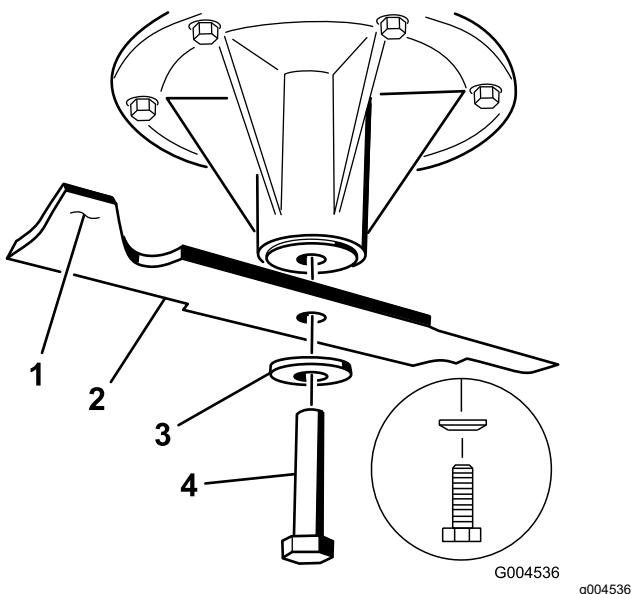

Figure 72
2. Install the blade onto the spindle shaft (Figure 72).
3. Install the curved washer and blade bolt (Figure 72).
**Note:** The curved washer cone must be installed toward the bolt head (Figure 72).